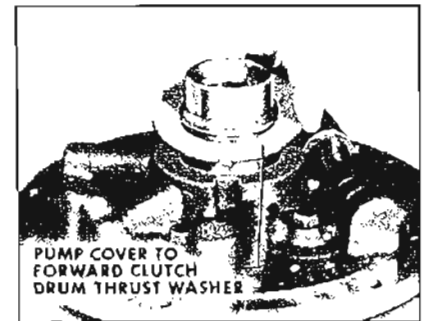

Figure 5-314
2. Grease and install selective fit washer to pump cover hub. See Figure 5-314.